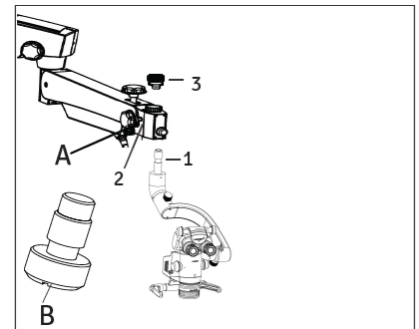

Fig. 39
4. Retrieve the inclined coupler with magnichanger from the packing and follow as below referring Fig.39.
- Install the coupling to the suspension arm by sliding the guiding shaft (1) into the suspension arm.
- Lock the inclined coupling with the threaded plug (3).
Make sure that safety screw (B) must tight in place at position (2) to avoid sudden falling of the coupling. Safety Screw always tied with the Carrier arm locking knob A as per Fig. 39